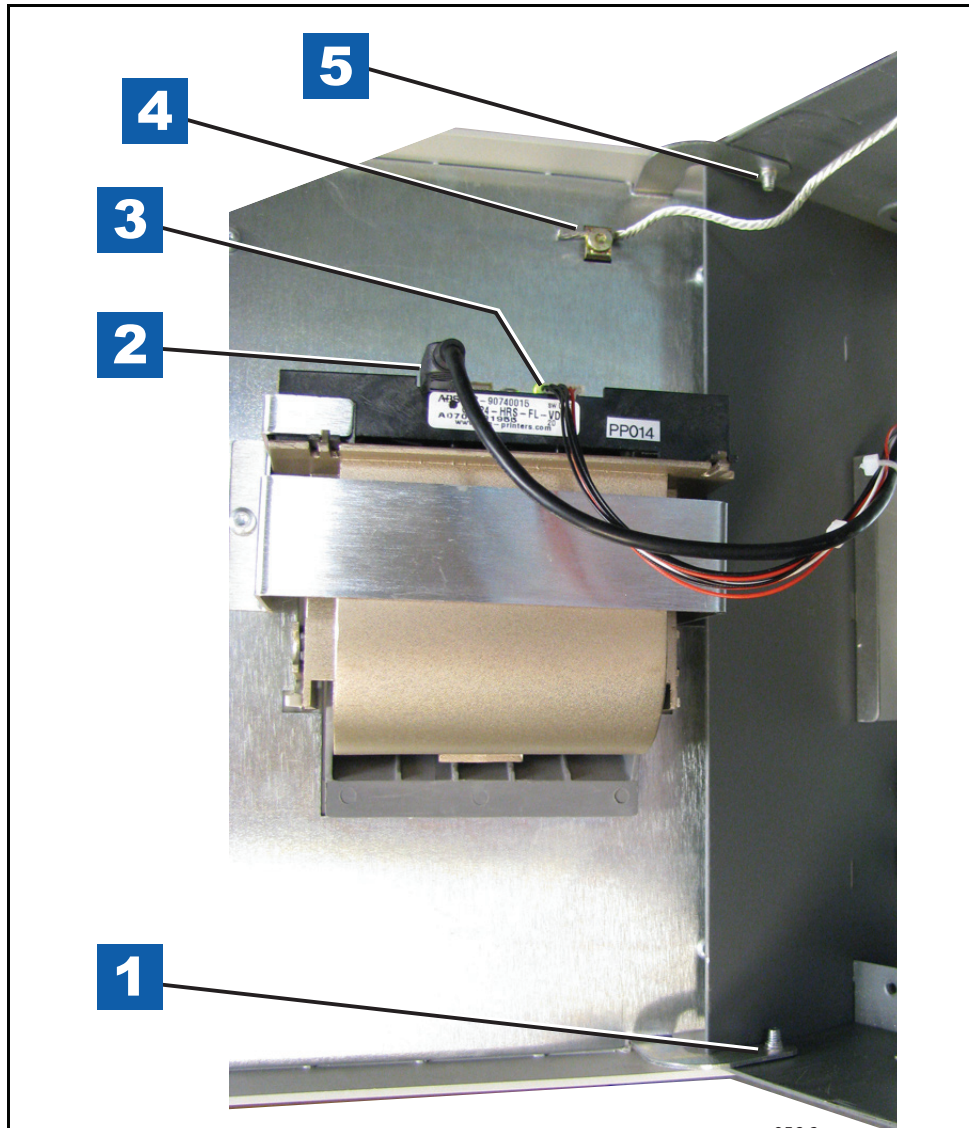

Figure 4. Printer door cables
| Figure 4. | Printer door cables | 6 |
3. Disconnect grounding braid from the saddle clamp on the inside of the Printer door (see Figure 4).
Legend for numbered boxes in Figure 4
7. Attach the grounding braid to the saddle clamp on the inside of the Printer door (see Figure 4).
8. Connect the USB cable and the power cable to the printer (see Figure 4).